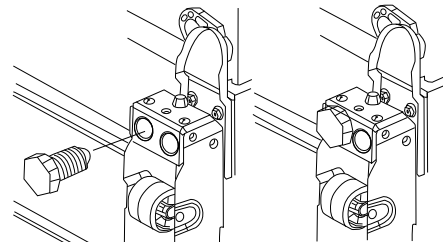

Figure 6
- Attach Leg leveller to the leveller hole farthest from the cabinet side face and wind it up fully. (Fig 6)